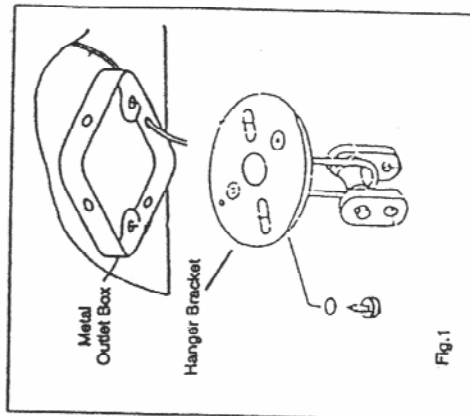

Fig. 1
3. Attach hanger bracket to outlet box using screws provided with the fan. (Fig. 1)